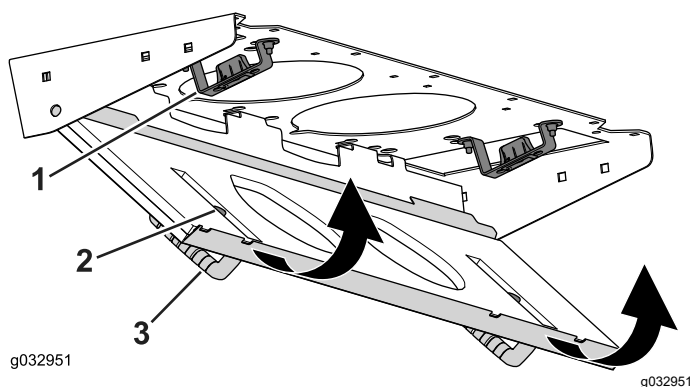

Figure 136
4. Rotate the filter screen around the tabs until the latch locks into the latch-mount assembly (Figure 136).